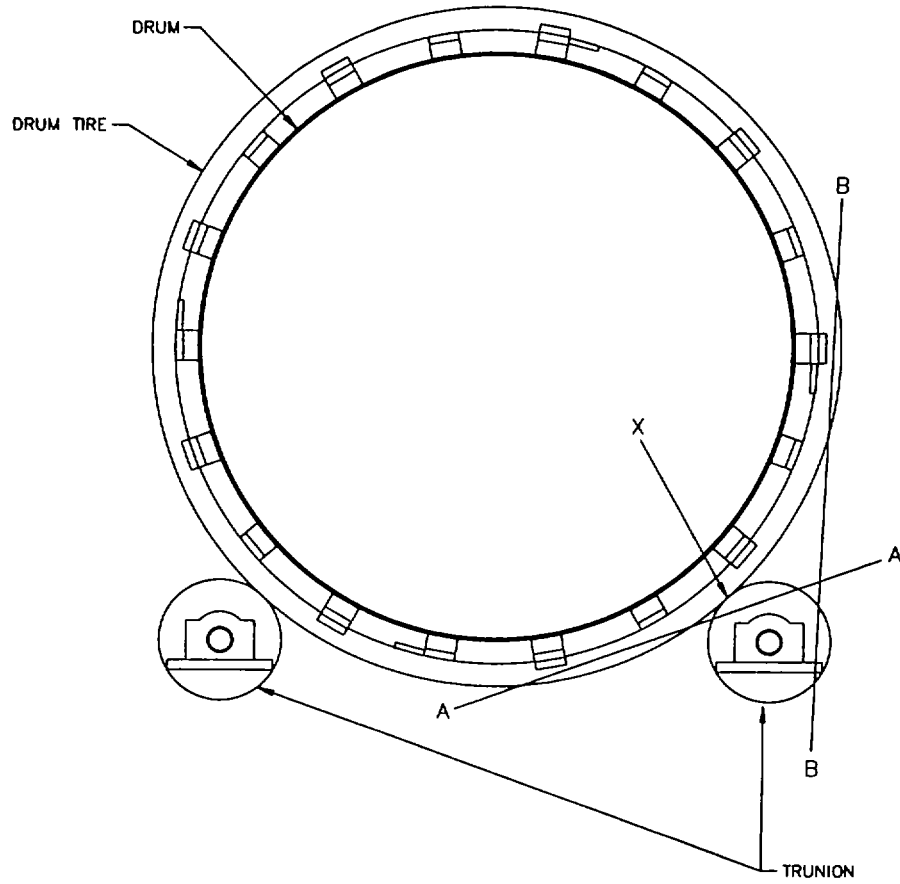

Figure 3-7. Drum Trunnion Alignment
6. Align the trunnions so they are on the same plane as the drum tire See figure 3-7.